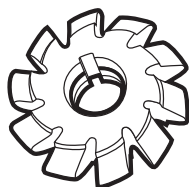

FIGURE 13—A 14-1/2° HSS involute gear cutter and a chart showing the cutting range of each size
Gear cutters may be purchased from large, industrial tool suppliers. One of the best known is Manhattan Supply Company in New York. They may be reached at (800) 645-7270 or you may go to their web site at [www.msdirect.com](http://www.msdirect.com) to order their catalog or CD-ROM. For example, on page 540 of their 1999 catalog, an involute gear cutter with 14-1/2° pressure angle and a 24 pitch in a #3 cutter is P/N 03192432 and lists for \$20.70 (1999). They carry a complete selection of 14-1/2° and 20° HSS gear cutters in stock. The chart in Figure 13 on the next page shows what size cutter is used based on how many teeth are to be cut on the gear.